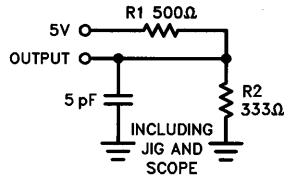

Figure 1b
- t_{HZR} and t_{DVR} use capacitance loading as in Figure 1b.